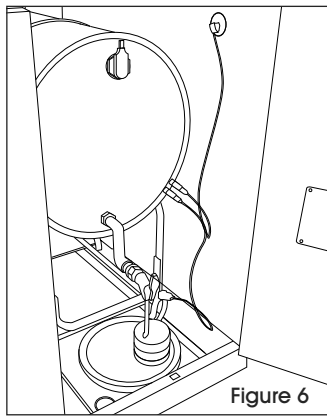

Figure 6
4. For internal cabinet grounding, when dispensing liquids inside a safety cabinet, it is important to ensure good electrical continuity through metal-to-metal contact of ground wires. (See Figure 6)